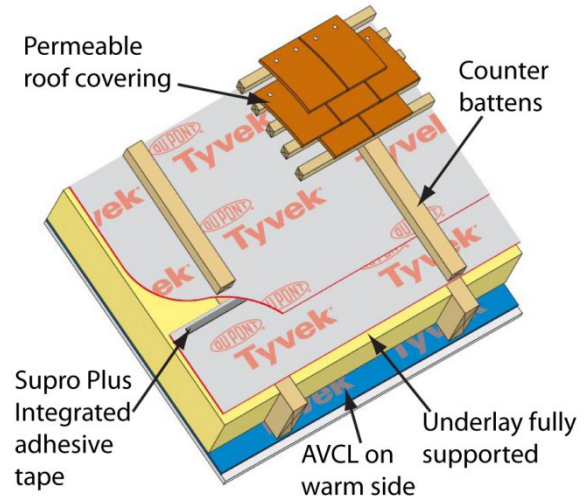

Figure 8
8. Warm roof - Non-ventilated & sealed (vapour permeable covering) (Figure 8)